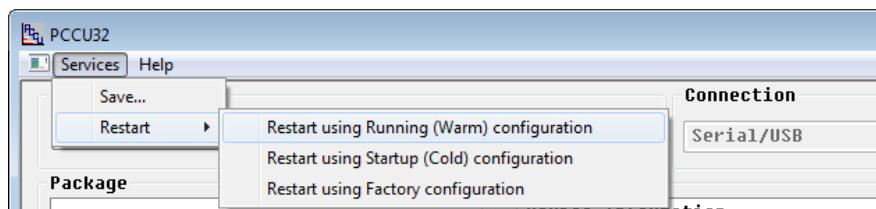

Figure 84: Warm start with device loader
5. Click **Services** in the menu bar, **Restart** option, and **Restart using Running (Warm) configuration** option (Figure 84).